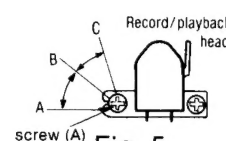
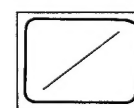

Fig. 5
Fig. 8
2. Playback the 8kHz signal from the test tape (QZZCFM). Adjust screw (B) in fig. 5 for maximum output L-CH and R-CH levels. When the output levels of L-CH and R-CH are not at maximum at the same point adjust as follows.
3. Turn screw (B) shown in fig. 5 to find angles A and C (points where peak output levels for left and right channels are obtained). Then, locate angle B between angles A and C, i.e., point where L-CH and R-CH outputs are balanced. (Refer to figs. 5 and 6.)
5. Playback the 8kHz signal from the test tape (QZZCFM). Adjust screw (B) shown in fig. 5 so that pointers of the two VTVMs swing to maximum and a lissajous waveform as illustrated in fig. 8 is obtained on the oscilloscope.